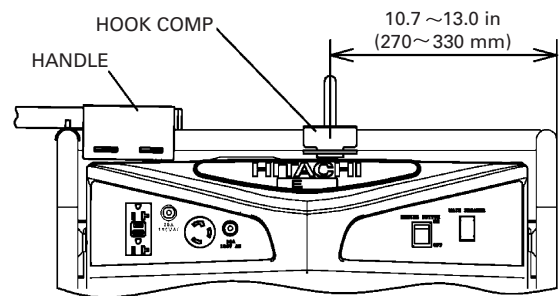

Fig.5
1. Position the HOOK COMP at the generator's balance point as shown Fig.5